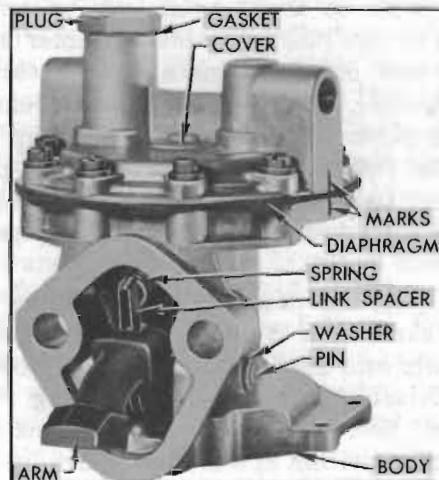

Figure 3-15—Fuel Cover, Body, and Rocker Arm
2. Mark edges of fuel cover and pump body with file so that cover may be reinstalled in its original position on body. See figure 3-15.
1. File riveted end of rocker arm pin flush with steel washer (fig. 3-15), or cut off end with a $\frac{3}{8}$ " drill, then drive out pin with a drift punch and hammer.
4. Stand the pump body on the bench, fuel flange down. Set rocker arm spring in body with one end over cone cast into body. Slide rocker arm and link assembly into body, with open end of all link hooks pointing up toward vacuum flange, and engage rocker arm spring with projection on link spacer. Hold parts in body and drive a *new* rocker arm pin through body and bushing. See figure 3-15.